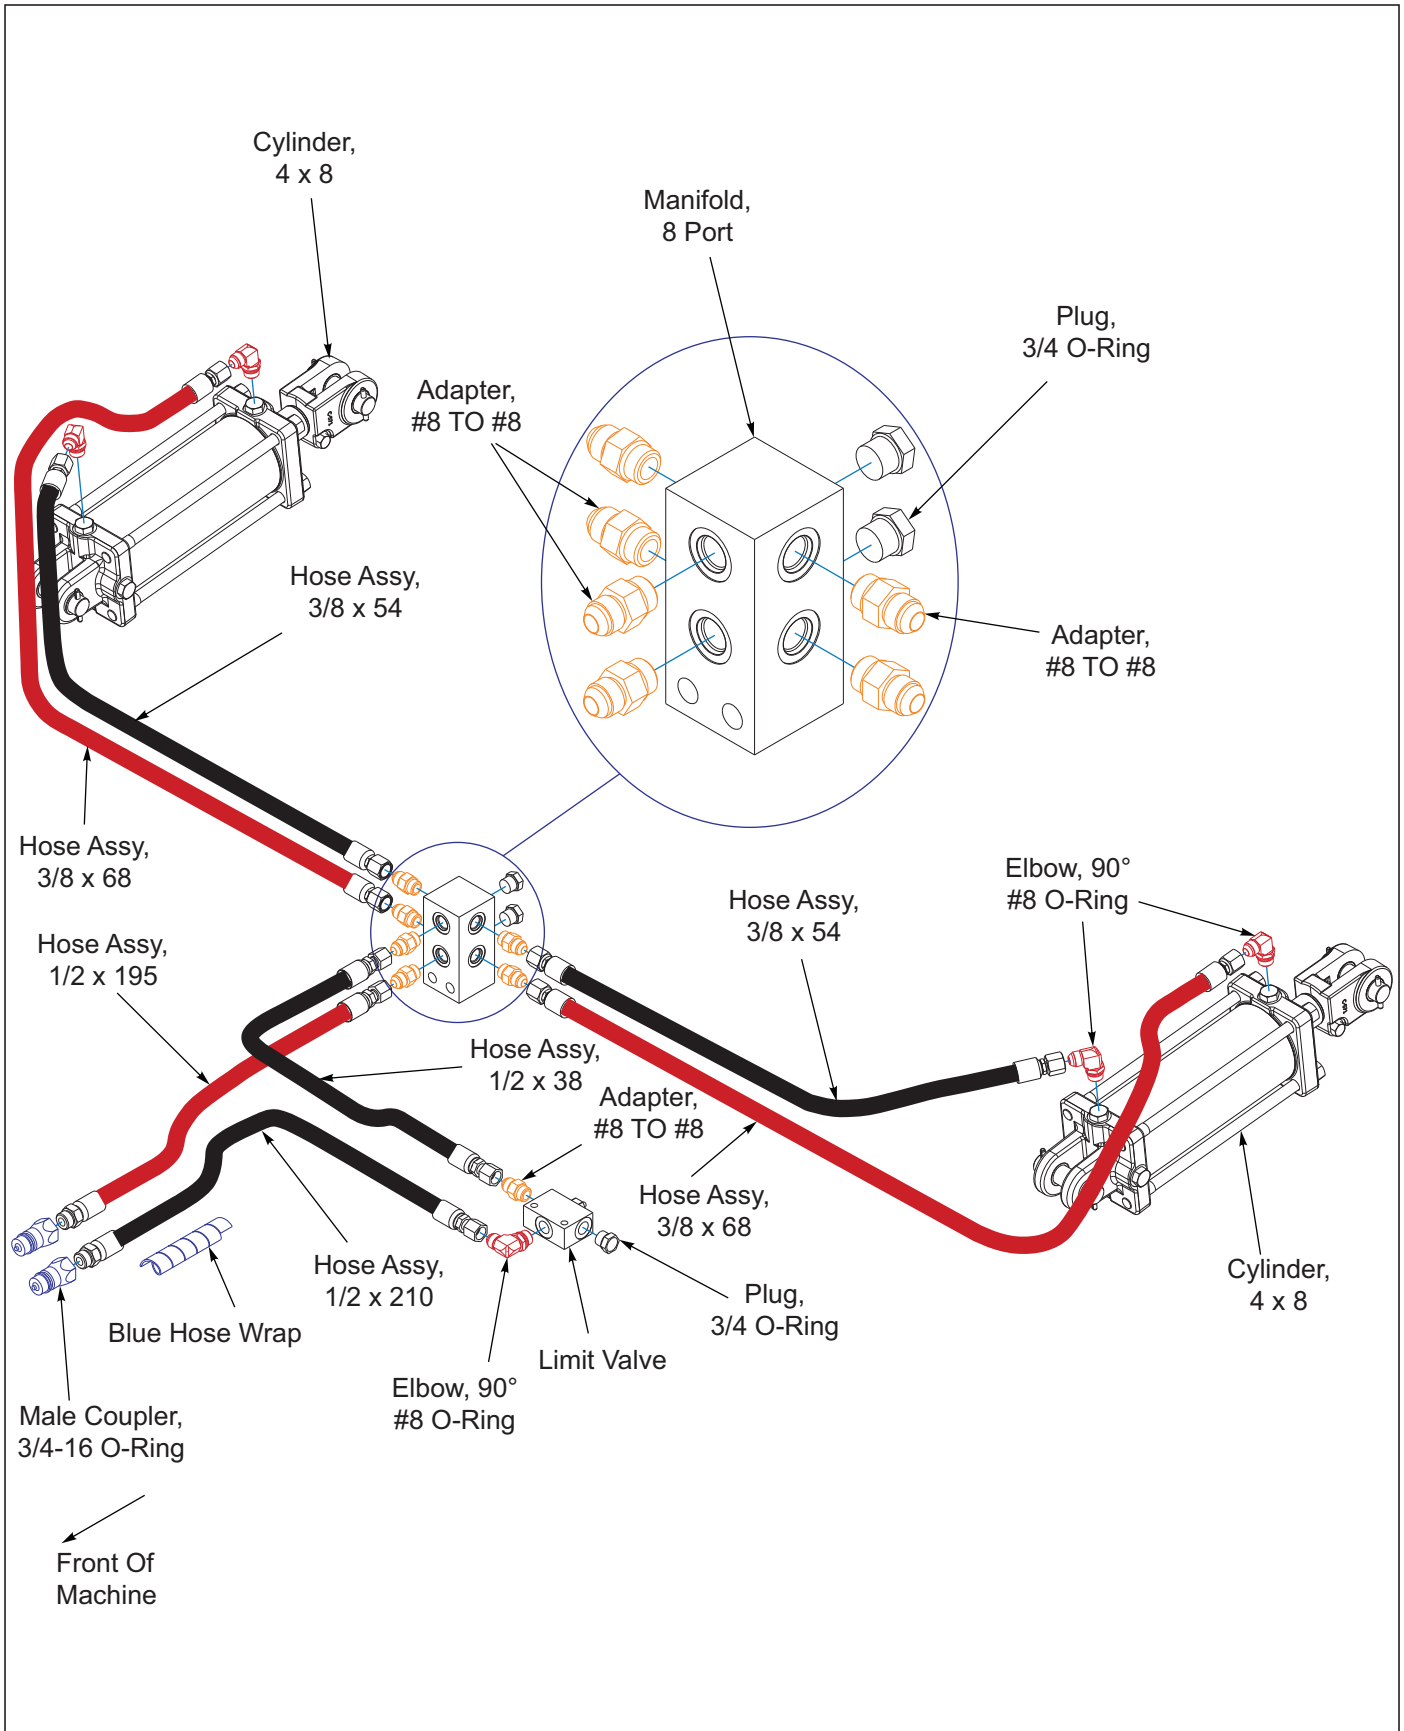

Figure 3-6: Lift Hydraulic Installation
8. Install a 90 deg elbow in the front side of the limit valve facing right and adapter to right side of limit valve *See Figures 3-6*.
See Figure 3-6 for Hydraulic Lift Installation.
2. Install 90° #8 elbows into base and rod end of each lift cylinder See Figures 3-6.